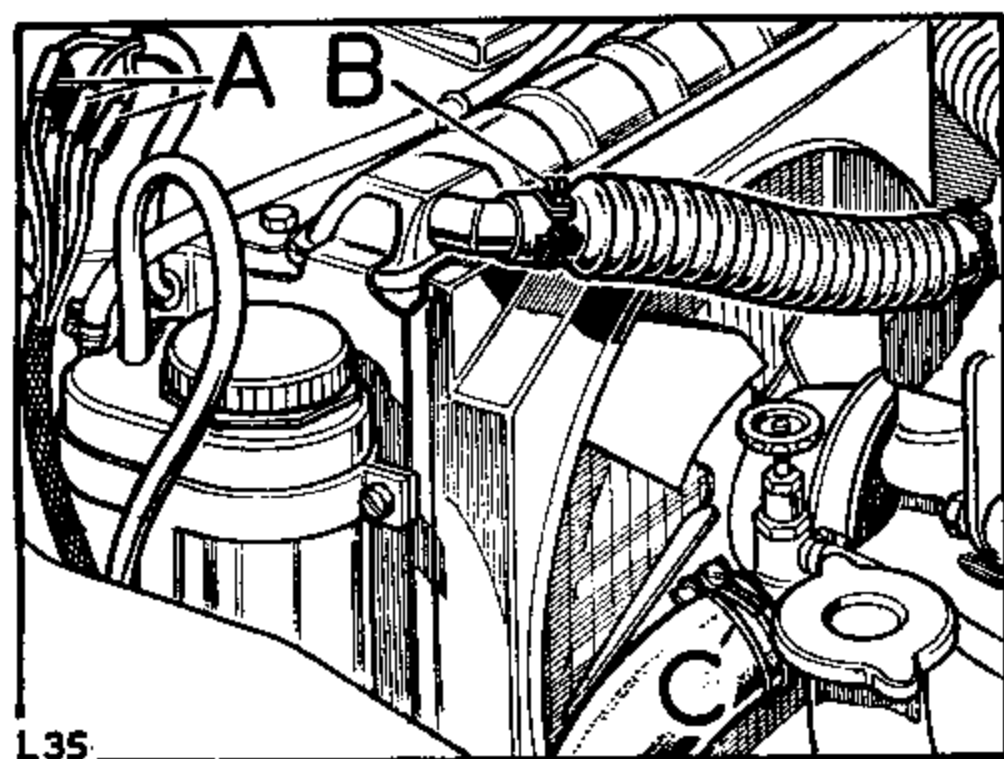

Fig. Q1-8. Coolant hose and lead connectors
2. Make the electrical connections at the snap connectors, referring to Fig. Q1-8 and the appropriate circuit diagram, if necessary, in Section N.
3. Connect the coolant hoses and replenish the engine coolant system, allowing a free flow through the drain taps before closing them. Fig. Q1-8 refers.